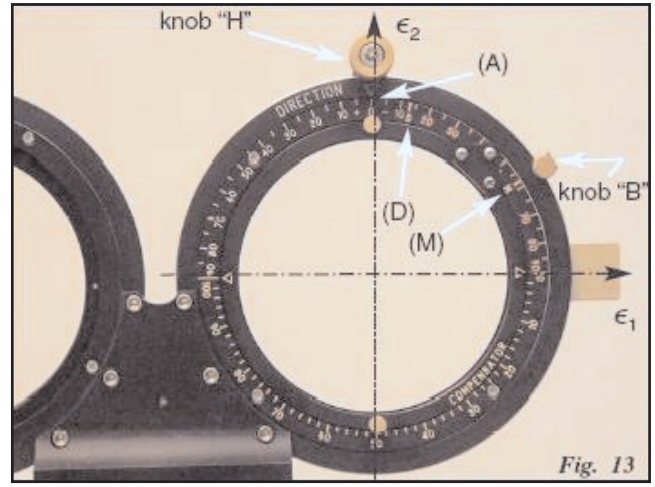

Fig. 13
Move knob “B” from the **M** (magnitude) position to the **D** (direction) position (see Fig. 13). The computer screen should now show a dark pattern superimposed on top of the color pattern. Unlock control knob “H” and slowly start rotating it in either the clockwise or counterclockwise direction. As you rotate you will observe that the dark pattern is moving. Keep rotating knob “H” until the marked point is covered by the dark pattern, and lock knob “H”. Move knob “B” back to the **M** position. The polariscope is now set in the direction of the principal stresses *at the marked point*, with respect to a vertical reference between the polariscope and test part. In the following section, the relationship between the principal strain directions and measurement of strain magnitude is explained further.
Observe the upper scale on the polariscope in front of the video camera (see Fig. 13). It is a $\pm 90^\circ$ scale calibrated in $\pm 5^\circ$ increments. Noting the position of the scale relative to the triangular directional indicator (A), unlock and use knob "H" to rotate the optical assembly until the complimentary angle is reached from its current position. For example, if indicator (A) is initially at -35° , rotate the optical assembly using knob "H" until the direction indicator is set at $+55^\circ$. The compensator's lengthwise axis will now be aligned with σ_1 (ϵ_1), and compensation at the point of measurement can begin.